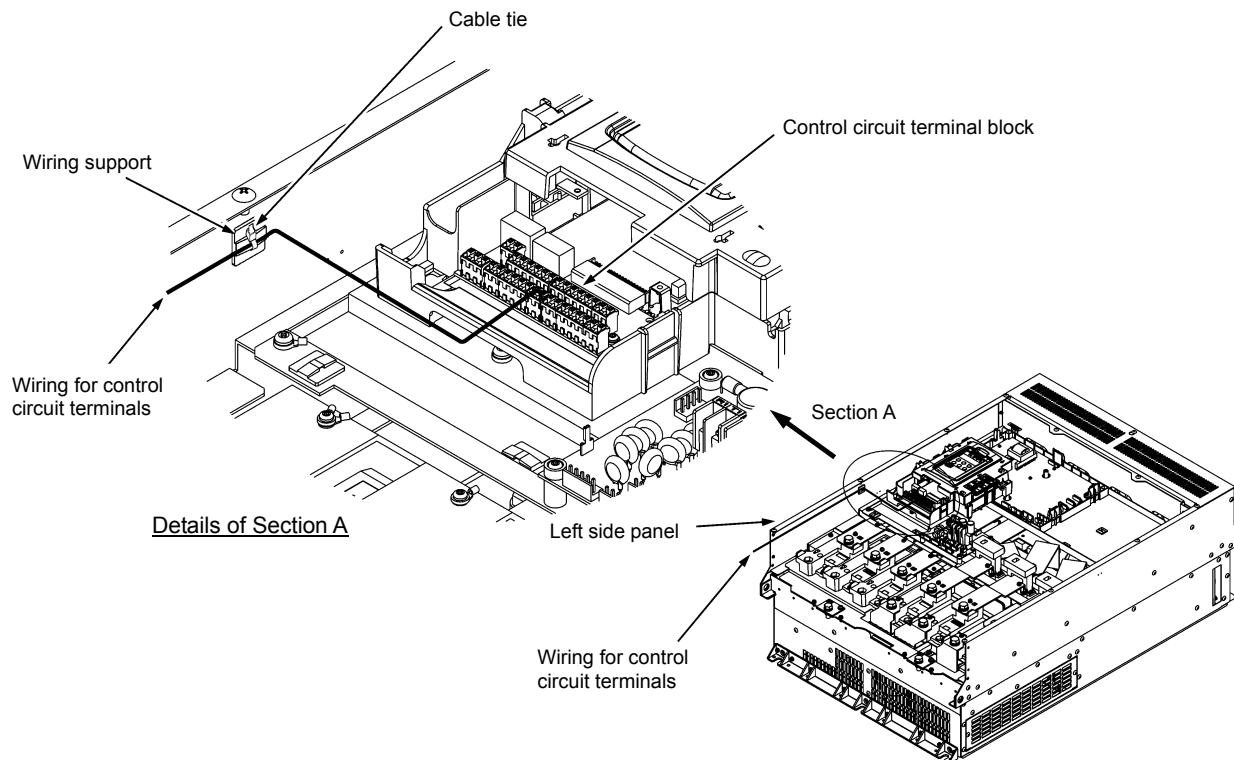

Figure 2.19 Wiring Route and Fixing Position for the Control Circuit Wires
- (1) As shown in Figure 2.19, route the control circuit wires along the left side panel to the outside of the inverter.
- (2) Secure those wires to the wiring support, using a cable tie (e.g., Insulok) with 3.8 mm or less in width and 1.5 mm or less in thickness.